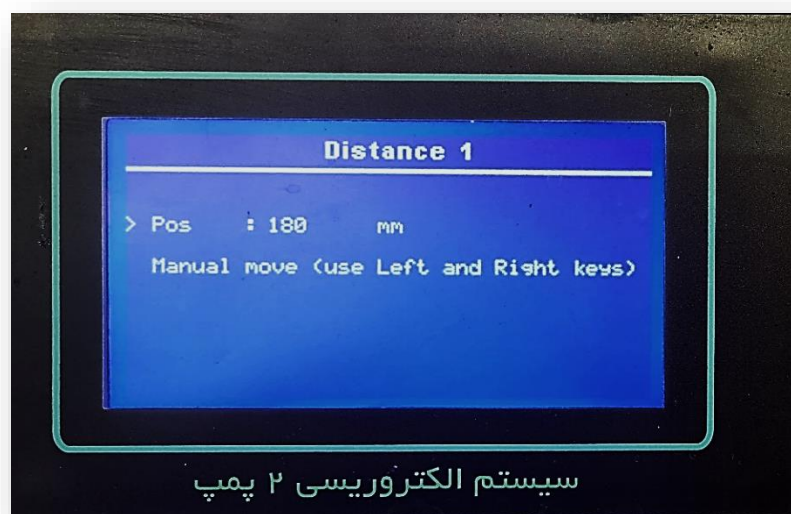

Figure 7. Settings related to the electrospinning distance system
- By selecting the Distance button, as shown in Figure 7, you can adjust the distance of each syringe pump relative to the collector.